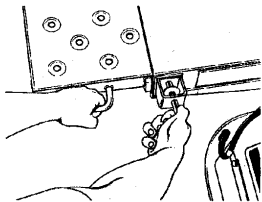
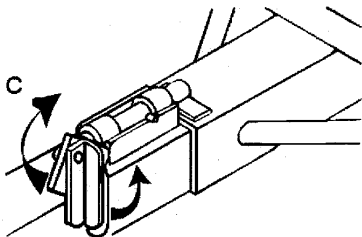

Fig. 7
Fig. 9
- There are two types of loading ramps, the pull out loading ramp and the tilt platform loading ramp. Identify which type you have from figures 7 and 8 or figure 9 below and follow the corresponding instructions.
- If you have a tow dolly with pull out loading ramps, pull both ramps completely out for loading. To release the loading ramp pull and hold the (spring-loaded) ramp release pin outward. Pull the ramp out rearward a short distance, then release the pin. (Fig. 7)
- If you have a tow dolly with tilt platform loading ramps, tilt the wheel platform back for loading. (Fig. 9) Swing the bottom of the locking latch (C) toward the coupler far enough to allow locking pin handle to be lifted. Swing the locking pin handle upward then pull locking pin towards the coupler as far as it will go. Wheel platform will tilt back to allow loading.
- If you have a tow dolly with pull out loading ramps, pull both loading ramps completely out. To release the loading ramp pull and hold the (spring-loaded) ramp release pin outward. Pull the ramp rearward a short distance, then release the pin. Continue pulling the ramp out until it stops, then lower it to the ground. Both ramps must be pulled out completely to properly unload the vehicle-in-tow without damaging the tow dolly or the vehicle-in-tow. (Fig. 7 and 8)
- If you have a tow dolly with tilt platform loading ramps, swing the wheel locking latch handle upward then toward coupler. This will allow the platform to tilt as you drive off the tow dolly. (Fig. 9)